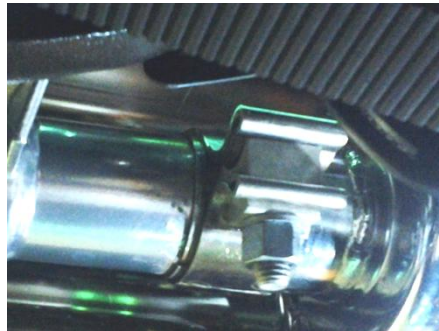

Figure 1.2
3. Loosen the main clamp holding the mufflers in place using a 15mm socket or wrench. These clamps are located in front of the muffler nose. Note: in may be necessary to apply some type of lubricant to easy the removal of the muffler. **(see figure 1.2)**